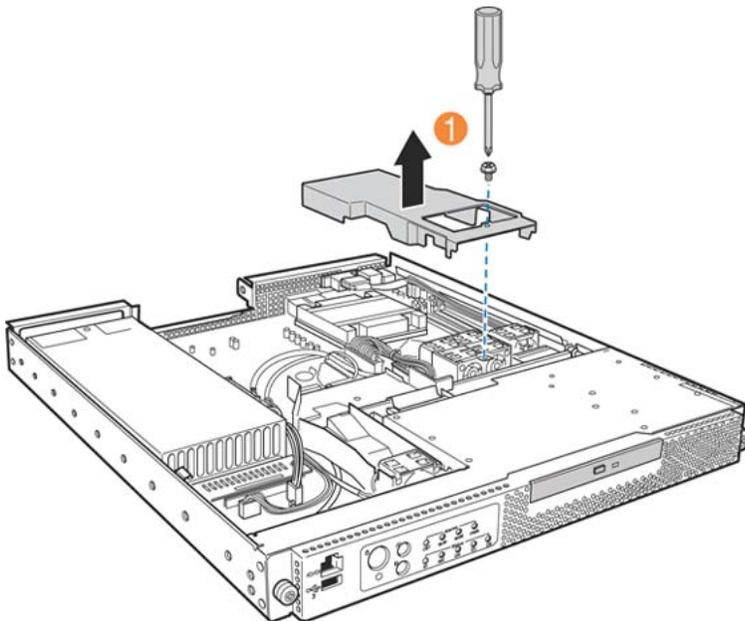

Figure 16: Processor air duct
1. Place the processor air duct over the processor socket and two-fan assembly. Ensure that you do not pinch any wires beneath the edges of the air duct. For more information about how to place the processor air duct in the server, see Figure 16: Processor air duct on page 76.